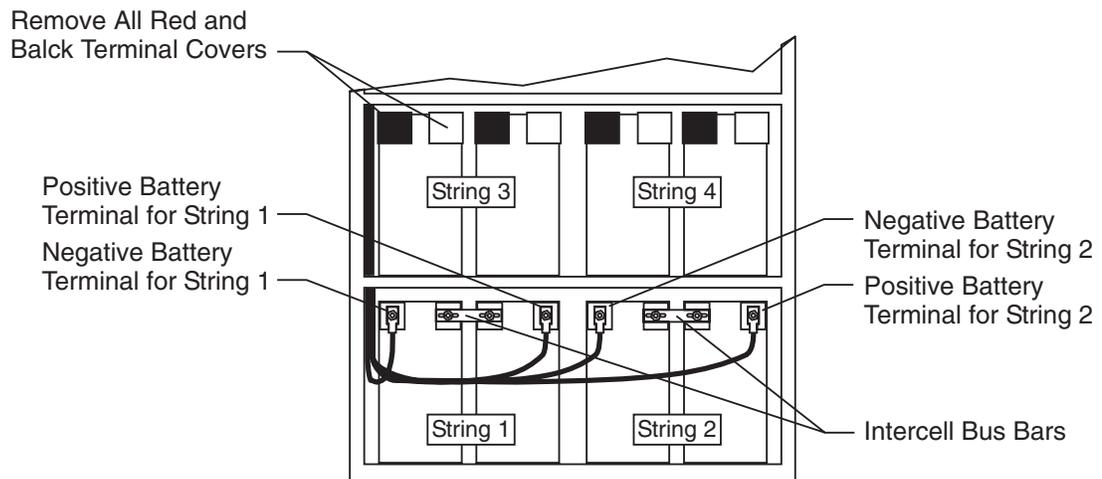
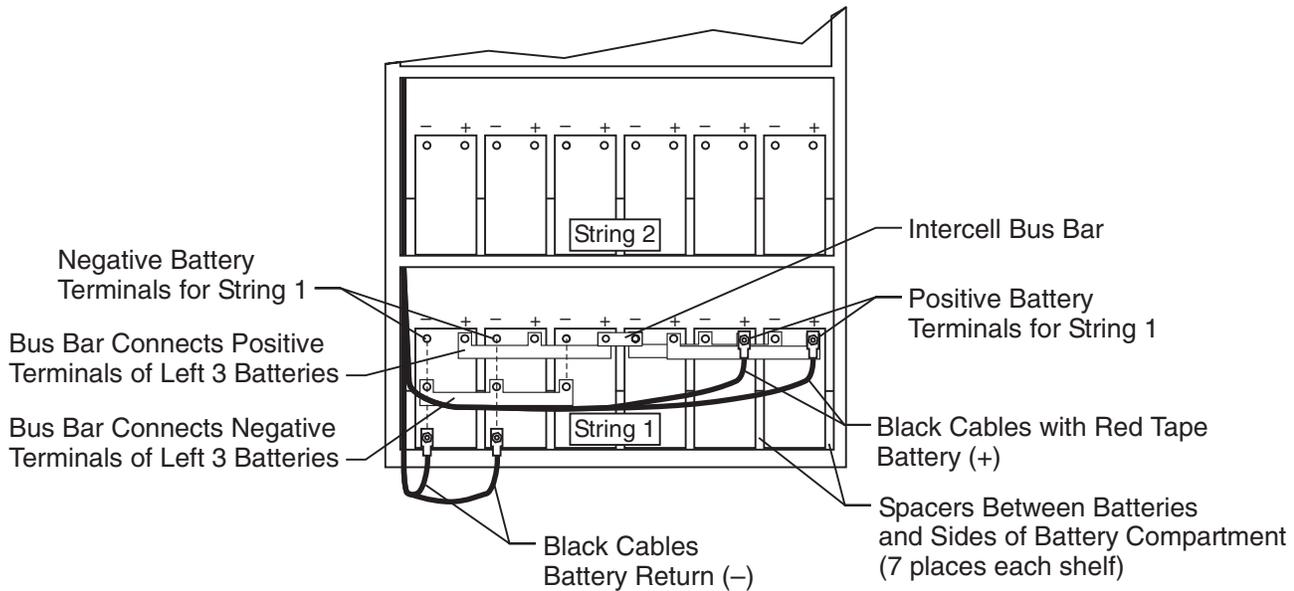

Figure 4-6: Battery Compartment with Front Cover Removed and Using 12IR125 Batteries
Figure 4-9: Battery Compartment with Front Cover Removed and Using Hawker SBS C11 Batteries
can be mounted on the two shelves in the battery compartment (Figure 4-6). When the Hawker SBS C11 modules are used, they are arranged into 1, +24V battery string per shelf, with each string consisting of 6 battery modules in its own series/parallel configuration (Figure 4-9). Additional battery strings of either type may be installed to increase the reserve time by using one or two auxiliary battery cabinets, with a maximum of 10 strings per cabinet.
3. Open the Front Door of the cabinet and remove the Battery Compartment Access Cover. Pull all of the insulated battery cable sets and thermistor wire sets clear of the area where the battery modules will be located. Refer to Figure 4-6 for string locations. Strings are located left to right, and from the bottom battery shelf to the top shelf.
In the following steps, be certain to check that the polarity marking on each cable matches that of the battery terminal. Positive polarity cables are Black w/Red tape, negative polarity cables are Black only. The lengths of the cables sets on each shelf determine the string for which they are intended. Refer to Figure 4-6.
11. Locate the intercell bus bars provided with the battery modules. Spread a thin coat of antioxidant on one of the bus bars. For battery string 1, place the coated bus bar between the positive terminal of the left-most module and the negative terminal of the module to its right (Figure 4-6). Using a battery terminal nut and washer, secure the bus bar to each terminal by hand tightening the nut.
2. Open the Front Door of the cabinet and remove the Battery Compartment Access Cover. Pull all of the insulated battery cable sets and thermistor wire sets clear of the area where the battery modules will be located. Refer to Figure 4-9 for mounting batteries on a shelf. Each shelf will hold a single string consisting of 6 battery modules in the C11 battery configuration. Strings should be added starting on the bottom battery shelf first.
3. Place six C11 Hawker batteries on a shelf. The battery terminals should face the front of the cabinet as shown in Figure 4-9.
In the following steps, be certain to check that the polarity marking on each cable matches that of the battery terminal. Positive polarity cables are Black w/Red tape, negative polarity cables are Black only. Refer to Figure 4-9.
7. Locate the module straps that were provided with the C11 modules and spread a thin coat of antioxidant on each of them. Position the supplied 3-module straps over all the positive battery terminals and all the negative battery terminals as depicted in Figure 4-6. Position such that the positive strap is facing the cabinet front on the right half of the string and the negative strap faces out on the left half of the string. Hand tighten the 1/4-20 hardware, flat washer, lock washer and nut to hold the straps in place.
One or two supplemental battery cabinets may be added to an OPS 24/800 power cabinet to support increased load requirements or supply increased reserve time. Table 2-5 has been provided as an aid in determining the number of IR125 battery strings necessary to support various loads for various reserve times to the 1.77 volts per cell cutoff level of the Low Voltage Battery Disconnect circuit of the power cabinet. When the number of IR125 battery strings required by the system exceeds 4 (see Figure 4-6) the supplemental battery cabinet may be used. If the Hawker SBS C11 (90 AH) battery modules are used in the 270 AH series/parallel configuration shown in Figure 4-9, the supplemental battery cabinet is needed if more than 2 of these strings are required.